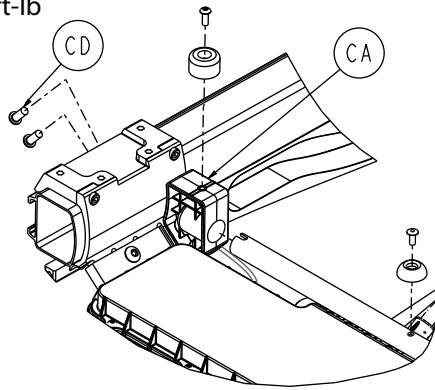

Figure 60 – Remove the Gatch bumper housing
6. Using a T27 Torx driver, remove the two button head cap screws (CD) that secure the Gatch bumper housing (CA) to the hitch bracket (Figure 60). Remove and save the Gatch bumper housing. Save the screws. Repeat on the other side.